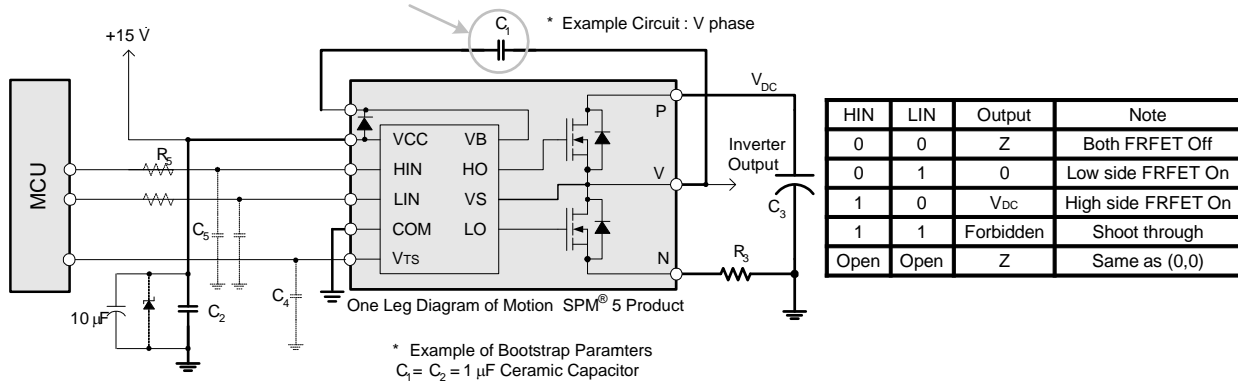

Figure 3. Recommended MCU Interface and Bootstrap Circuit with Parameters
3. Source terminal of each low-side MOSFET is not connected to supply ground or bias voltage ground inside Motion SPM® 5 product. External connections should be made as indicated in Figure 3.